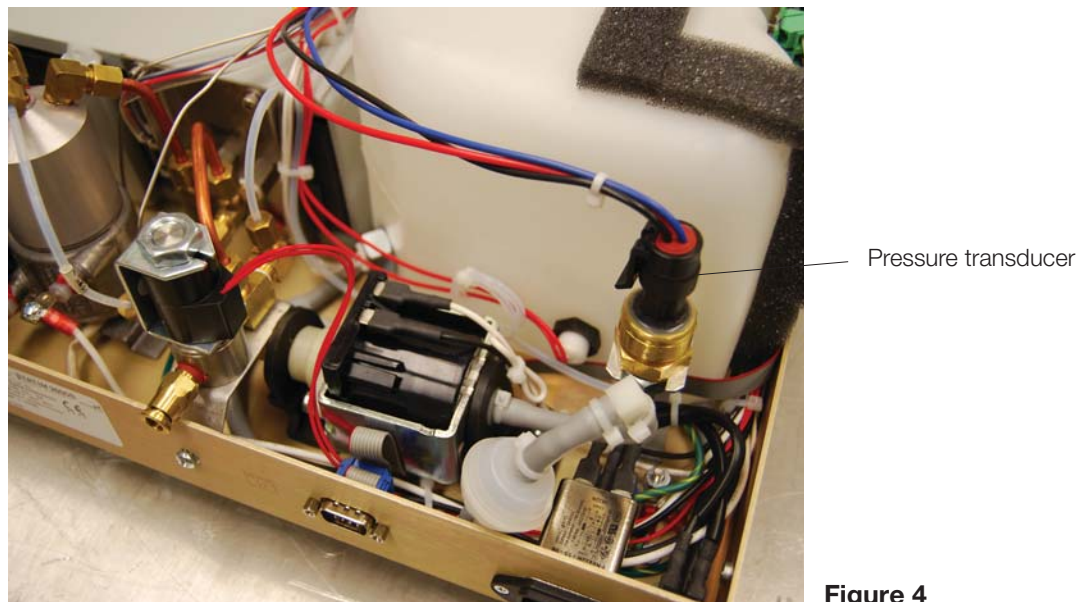

Figure 4
- 5.5. Using a 3/8-inch wrench, disconnect the compression nut (8) holding the coiled transducer tube (6), from the bottom of the transducer (see Figure 4).